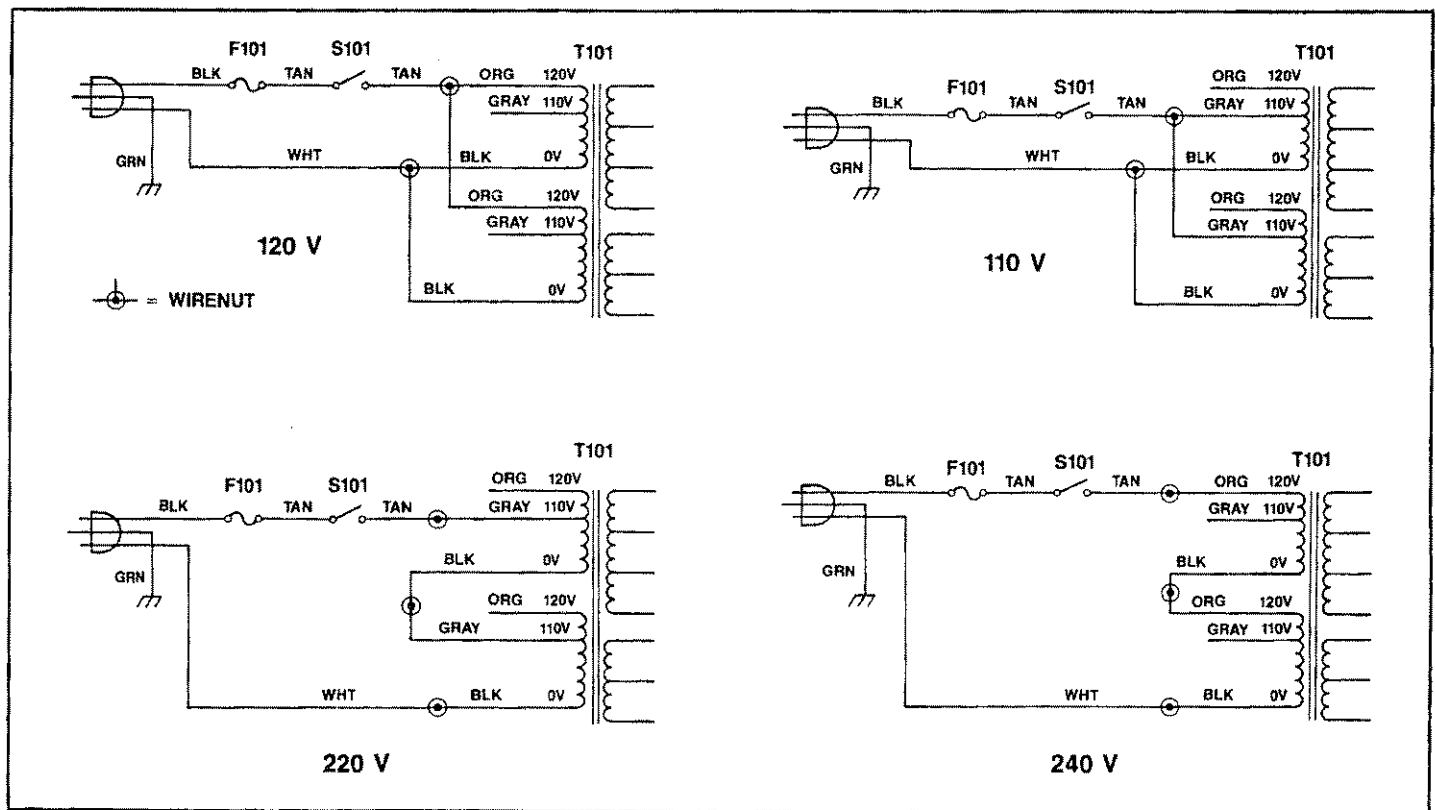

Fig. 10. Line Voltage Conversion.
The primary winding of the power transformer is tapped to permit operation from 110, 120, 220, or 240 VAC, 50/60 Hz line voltage. Conversion from one line voltage to another is done by a simple wiring change as shown in Fig. 10.
3. Rewire the power transformer to the desired line voltage as shown in Fig. 10. Insulate the ends of the unused transformer tap wires.